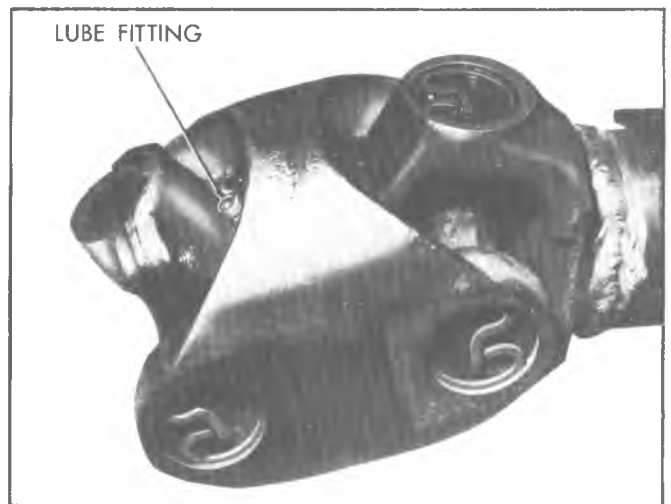

Fig. 32—Lubrication Fitting
5. Grease universal as outlined in Section 0 at all three (3) fittings (2 conventional type and one in rear yoke half) that requires a needle nose grease gun adapter.
6. Install propeller shaft with constant velocity joint next to transfer case. Torque U-bolts to specifications. The lubrication fitting at this location is shown in figure 32.